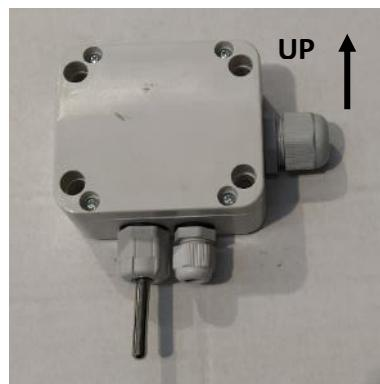

Figure 5.13. Recommended position for installing the outdoor temperature probe.
- Install the outdoor temperature probe with position shown on Figure 5.13 to avoid water to come in.